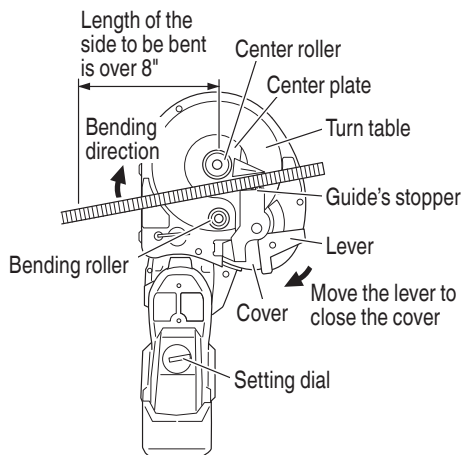

Fig. 47
- The minimum required bending length is 8" (200 mm). If the bending length is not long enough, the rebar can come off during bending operation, or it can break into fragments and scatter dangerously. (Fig. 47)
- (7) Properly setup by placing the rebar against the guide's stopper (Fig. 47)